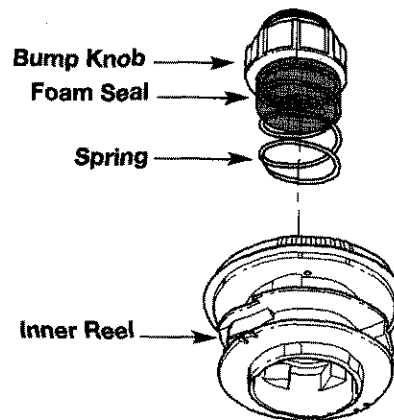

Fig. 24
- Turn the Bump Knob counterclockwise and remove the bump knob, spring, and foam seal (Fig. 24).
2. Pull out the bump knob, spring, and foam seal (Fig. 24).
3. Pull the inner reel with existing line from the outer spool (Fig. 24).
7. Place the bump knob, spring, and foam seal into the inner reel (Fig. 24).